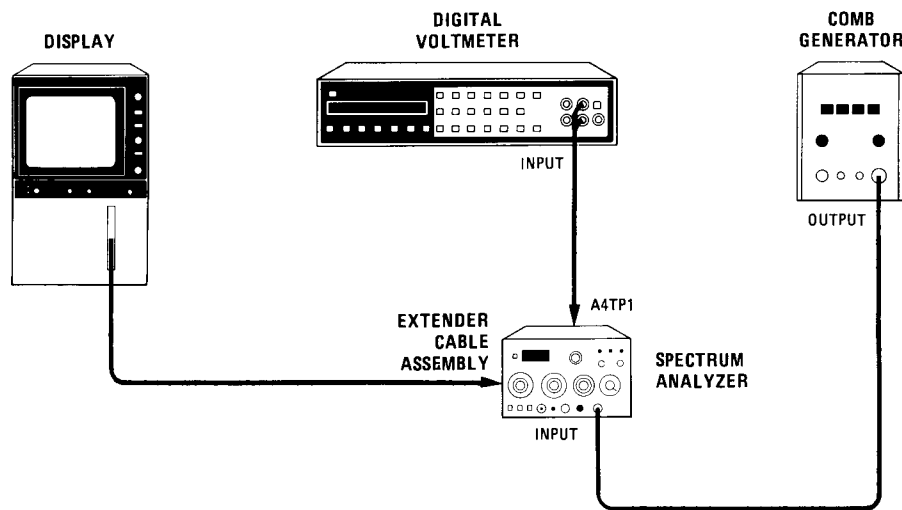

Figure 5-1. Frequency Control Adjustment Test Setup
1. Connect equipment as shown in Figure 5-1. Connect digital voltmeter to A4TP1, and set controls as follows: